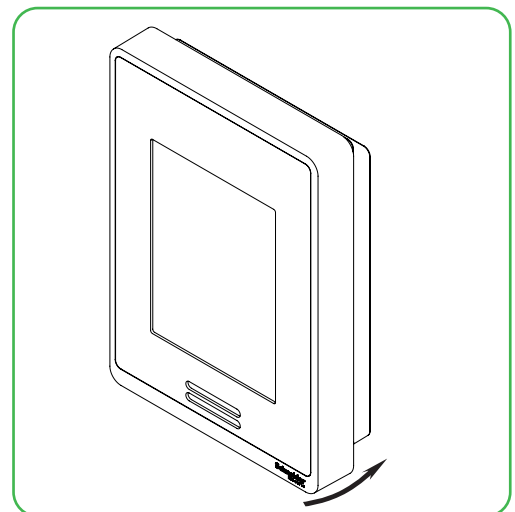

Figure 3 Reinstall cover
12. Gently align cover to top of base and snap in place from bottom (Figure 3).